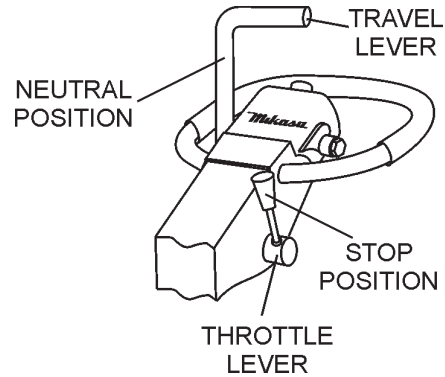

Figure 23. Throttle Lever (Stop)
3. Place the throttle lever in the **STOP** position (Figure 23) to stop the engine.